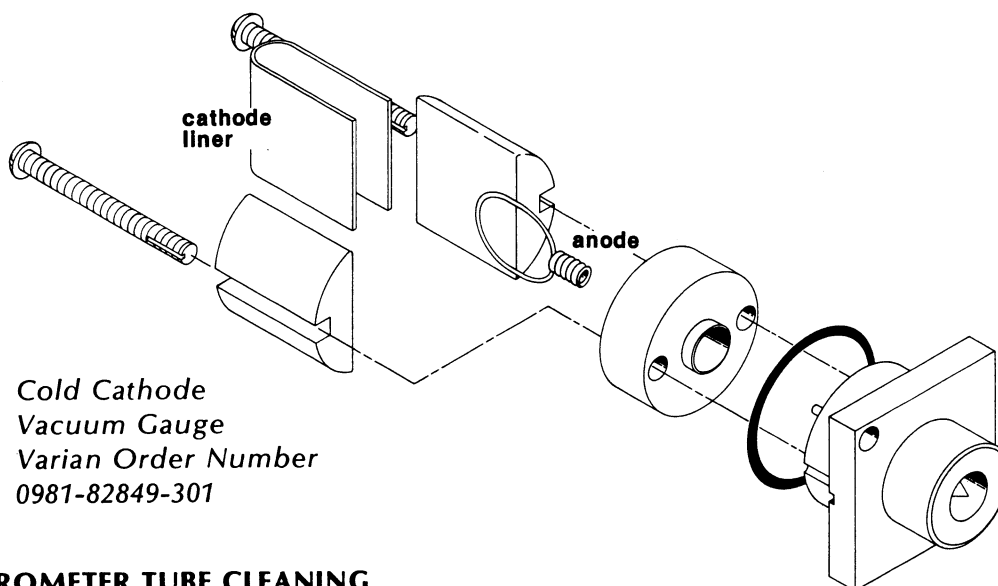

Figure 6-29. Cold Cathode Vacuum Gauge
3. Slip out the cathode liner. If it is dirty, clean it with emery cloth, or replace it. To dismantle the gauge, which is rarely necessary, see Figure 6-29. If anode must be removed, twist it **to loosen** while pulling to prevent cracking ceramic feedthrough. This will **appear** to be screwing loop onto pin. When replacing the anode, again twist it to loosen while pushing it onto the pin.